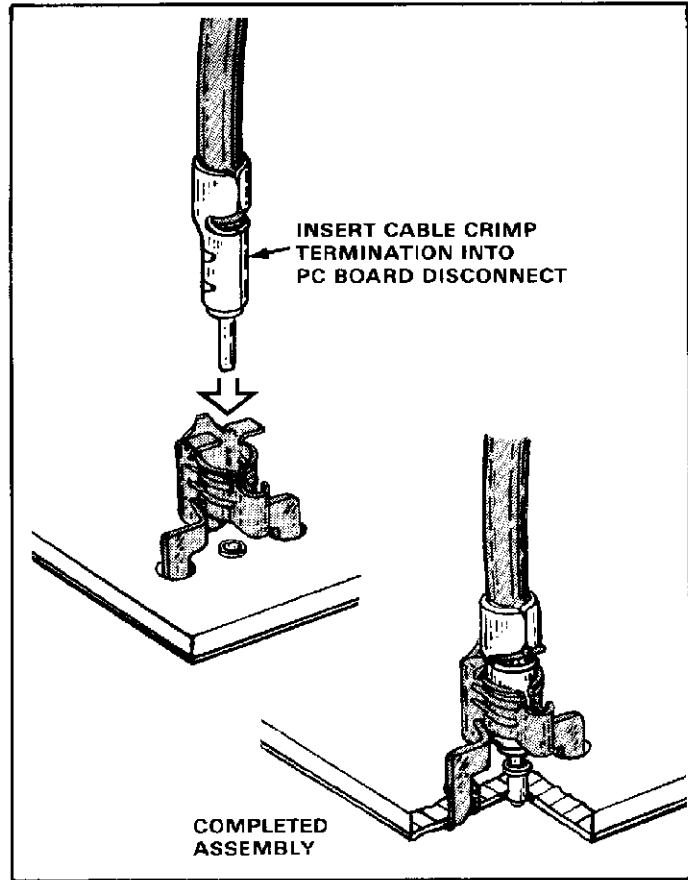

Fig. 5
4. Insert crimped terminal into pc board disconnect until bottomed, with cable center conductor inserted into miniature spring socket. See Figure 5.